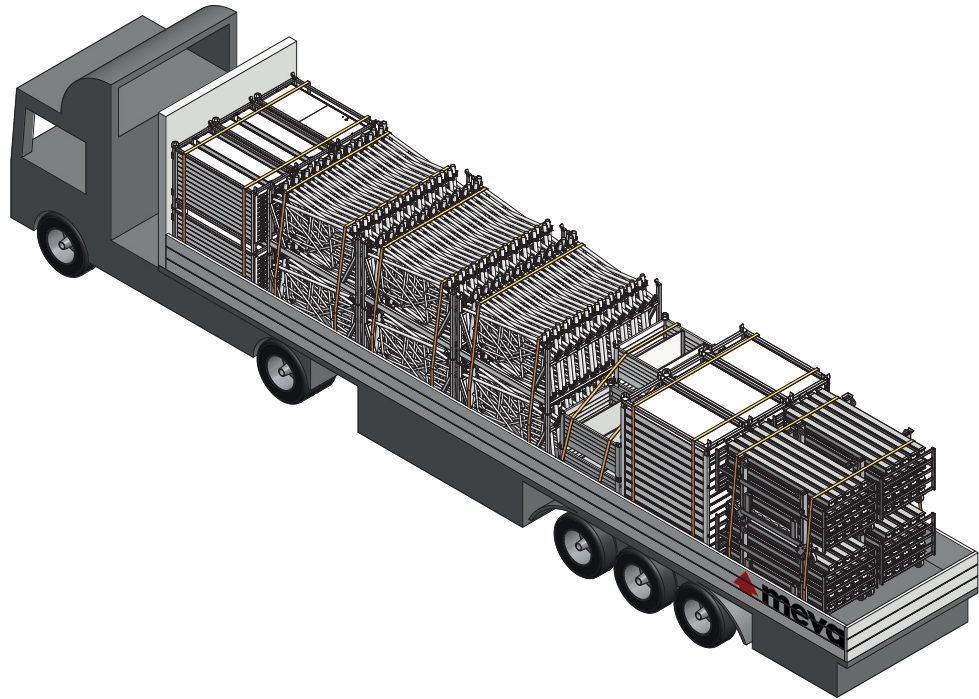

Fig. 30.1
2 load/cargo straps are required per transport rack or bundle of material (Fig. 30.1).
- 40 frames 100 MT: 755.50 kg (Fig. 30.1)